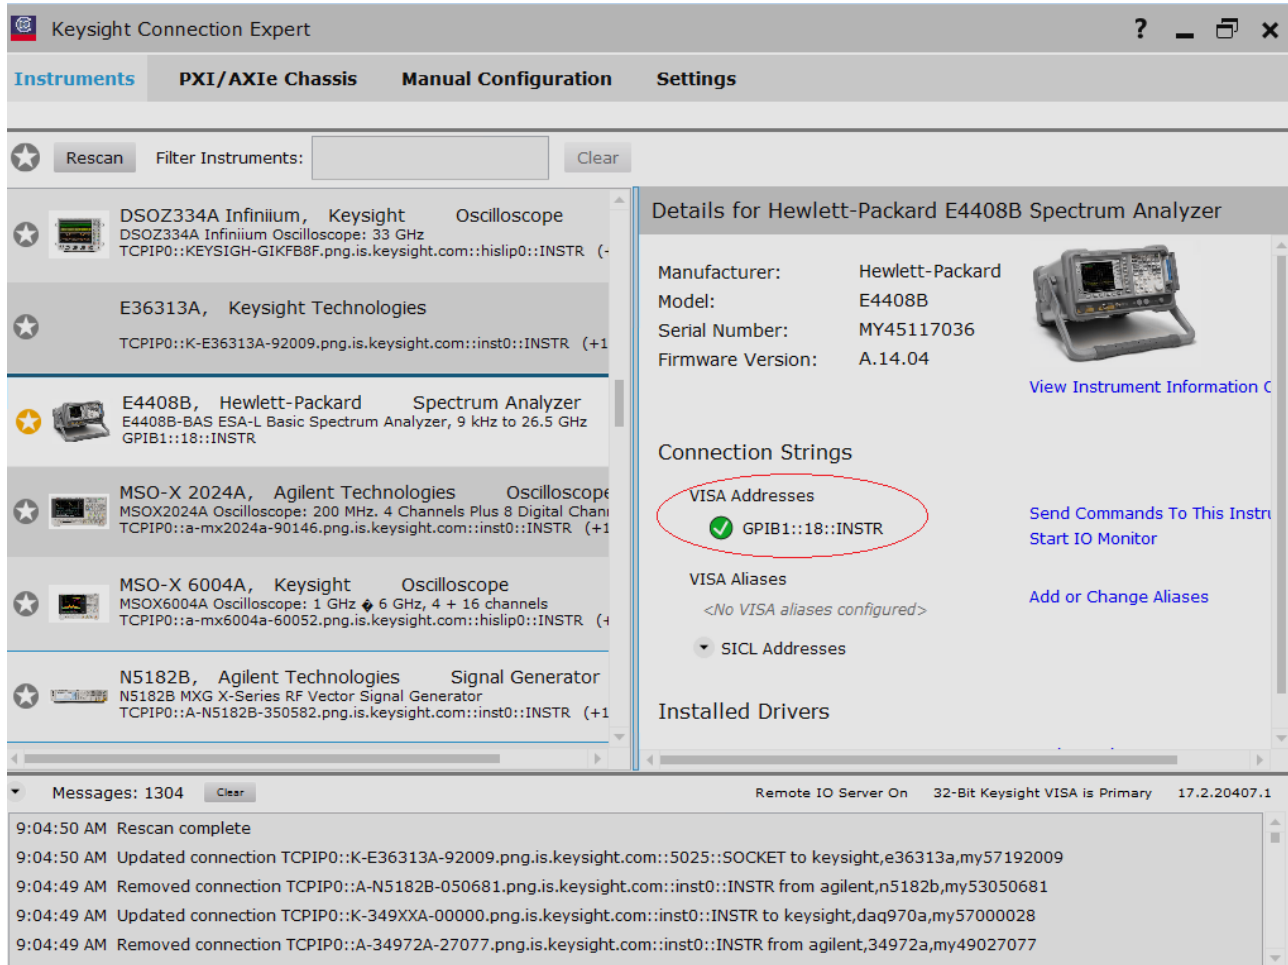

Figure 27 Checking VISA/SICL Address for Spectrum Analyzer in the Keysight Connection Expert
- 11 A pop-up box appears where you can enter either the VISA/SICL address or the IP address. Enter the information and click the **Verify** button, followed by the **Done** button to close this box. The VISA/SICL address or the IP address can be obtained from the Keysight Connection Expert application, as shown in Figure 27.